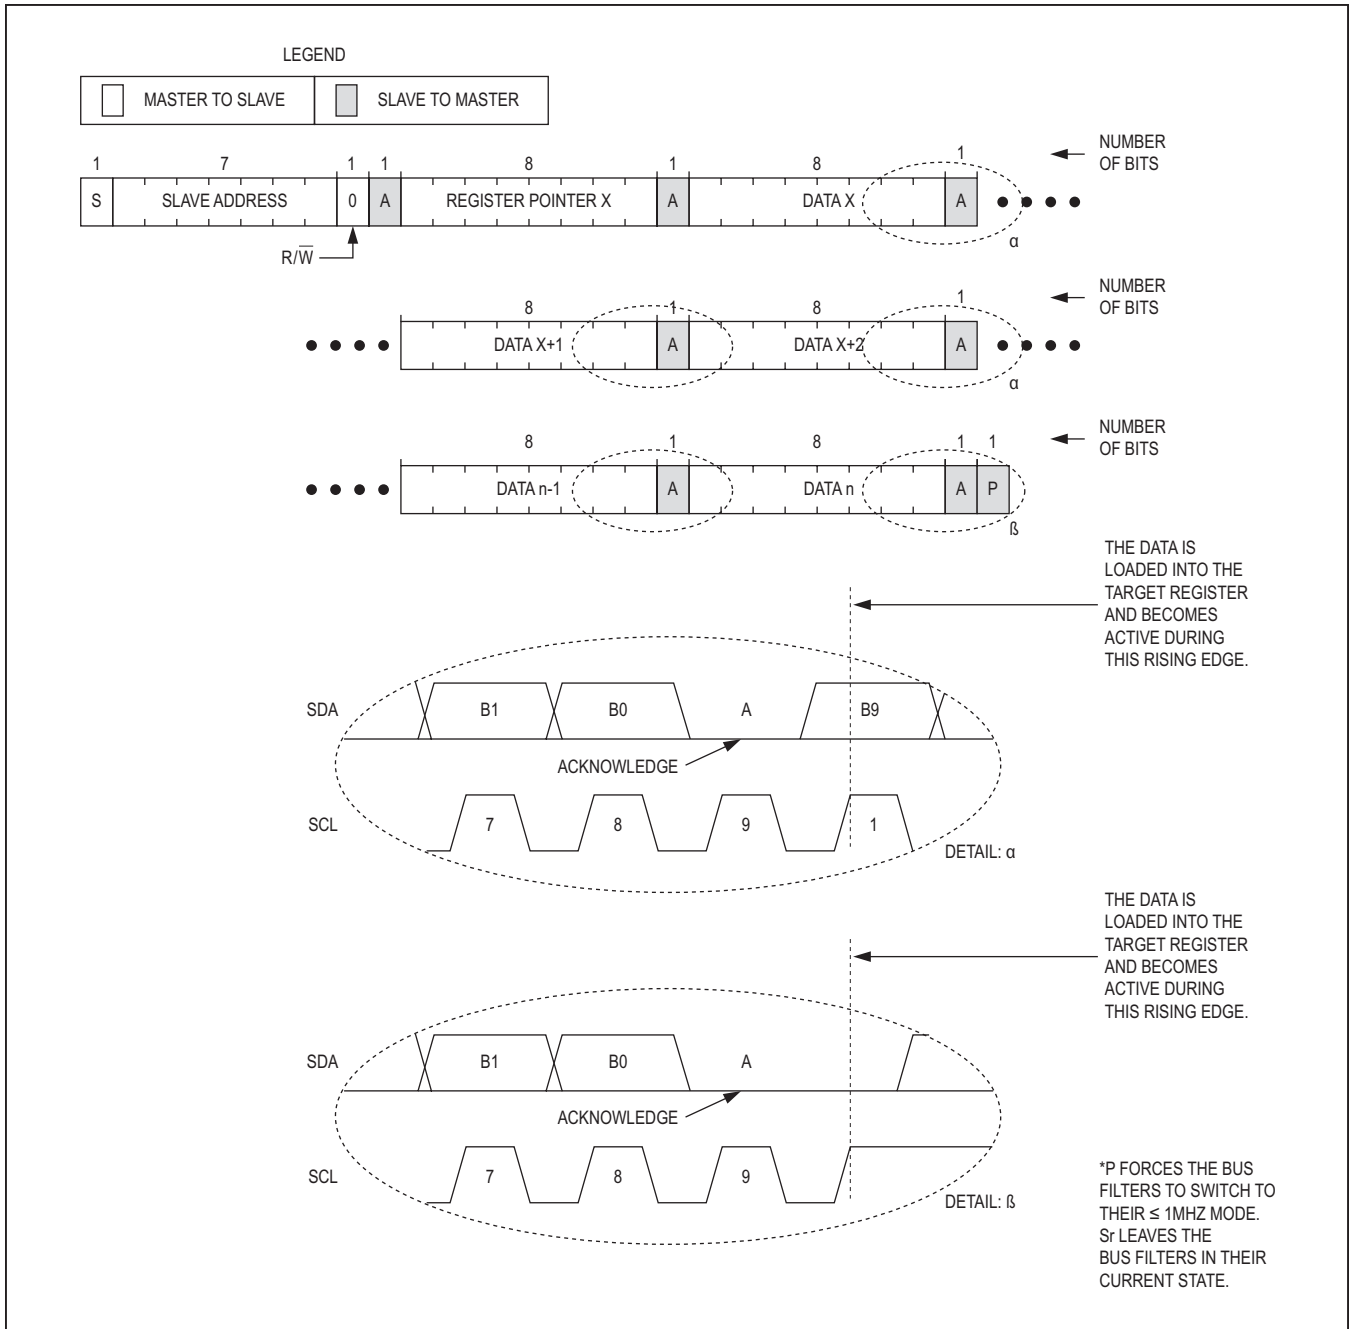

Figure 10. Writing to Sequential Registers X to N
Figure 10 shows the protocol for writing to a sequential registers. This protocol is similar to the write byte protocol, except the master continues to write after it sends the first byte of data. When the master is done writing, it issues a stop (P) or repeated start (Sr). This protocol is recommended when configuring the device during initialization. The writing to sequential registers protocol is as follows:
- 1) The master sends a start command (S).
- 3) The addressed slave asserts an acknowledge (A) by pulling SDA low.
- 10) The master sends a stop condition (P) or a repeated start condition (Sr). Issuing a P ensures that the bus input filters are set for 1MHz or slower operation. Issuing a repeated start leaves the bus input filters in their current state.